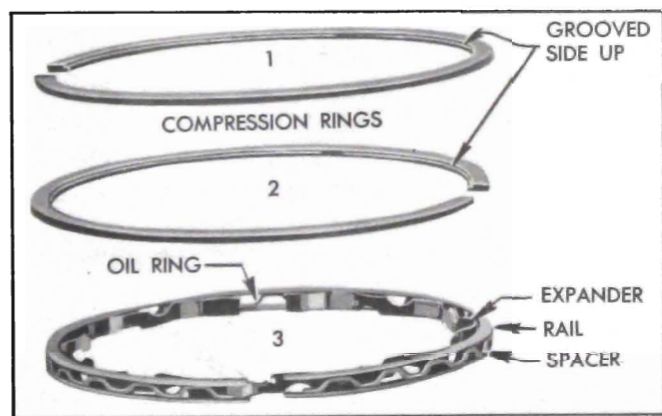

Figure 2-35—Compression and Oil Rings
7. Remove compression rings using Ring Expander KMO-232. Then remove oil ring by removing the two rails, spacer, and expander which are separate pieces in each piston third groove. See Figure 2-35.
7. Install compression rings in second and first grooves of each piston, using Ring Expander KMO-232. Be sure to place the grooved or beveled side of each ring toward top of piston. See figure 2-35.